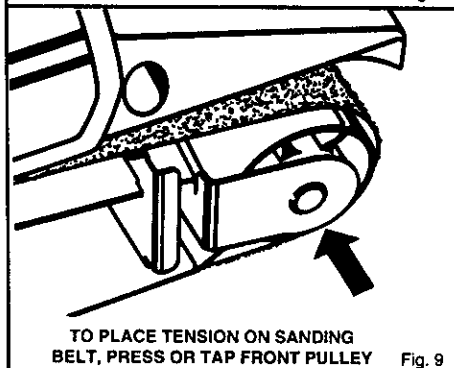

Fig. 9
- Apply tension to front pulley by pressing or tapping it with a block of wood in the direction of the arrow as shown in Figure 9. The pulley will snap back into operating position.